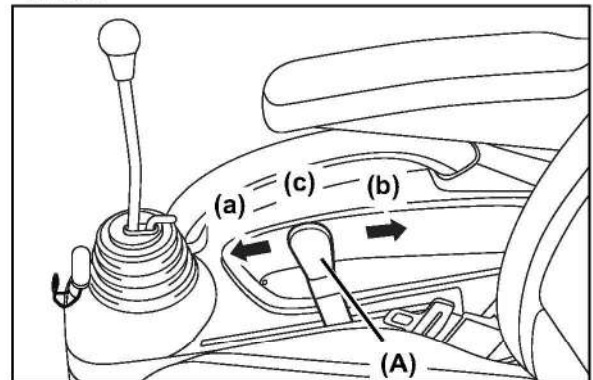
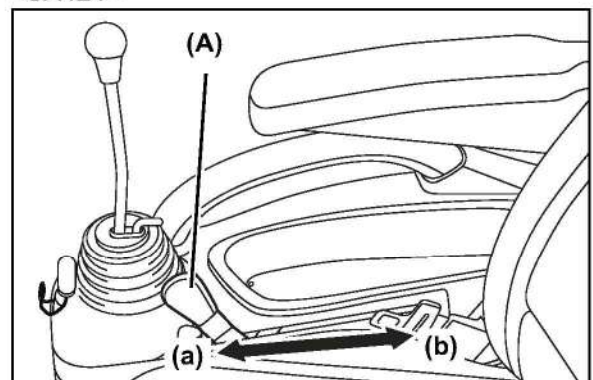

Fig 5-24
Fig 5-25
### (7) 3-point hitch control lever (Fig 5-24, Fig 5-25)